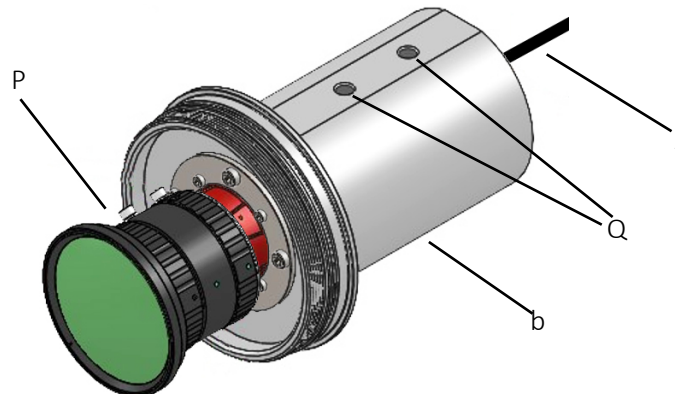

Figure 13: Adjusting the lens after the camera tube assembly has been completed
40. Use the 4 M6 screws to connect the Camera Tube (b) to your mounting base and tighten them at 6.6 Nm maximum torque for a thread engagement of 6.5 mm. See Figure 13.
41. Connect the GigE interface cable (J) to the host.